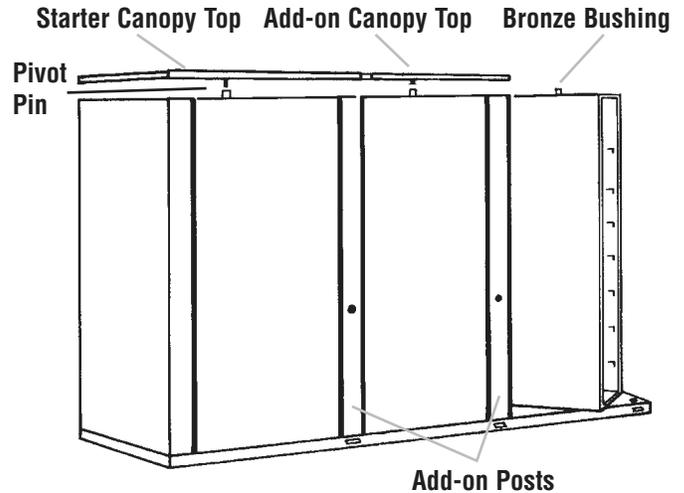

Figure 8
STEP 8 - POSTS, PANELS, AND CANOPY TOPS (Figure 8)